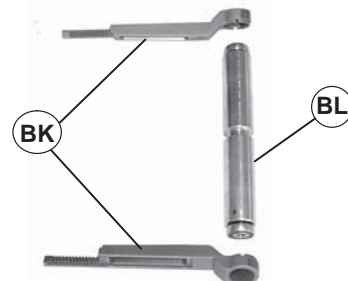

Figure 34
6. Remove two head plates (Figure 34, item BK) from spindle and bearing assembly (BL).